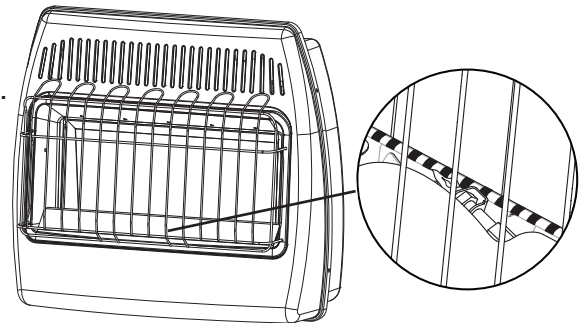

Fig. 24 - Pilot Flame Location
6. With control knob depressed, push down on the ignitor button until the pilot lights. The pilot is visible centered below the main burner, behind the front grill. (See Fig. 24)
7. Keep control depressed for (30) seconds after pilot lights. Release control knob.
7. Keep control knob depressed for (30) seconds after pilot lights. Release control knob.